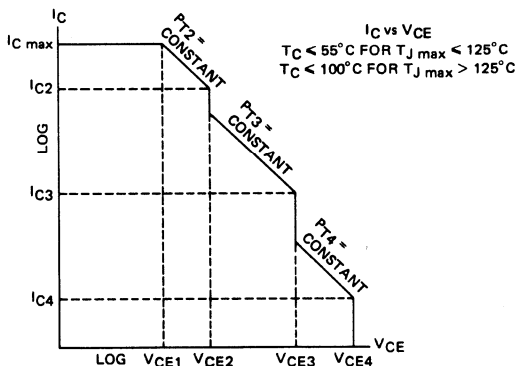

FIGURE 1
Figure 1 shows a Forward-Biased Continuous Safe Operating Area. For  $V_{CE} \leq V_{CE1}$  the total power dissipation  $P_T$  is limited by  $I_C \text{ max}$ . At increasing  $V_{CE}$  the power dissipation capability of most transistors is decreasing gradually. Because the rate of decrease depends on the individual transistor, it is suggested to use  $P_{T3}$  for  $V_{CE2} < V_{CE} \leq V_{CE3}$  and  $P_{T4}$  for  $V_{CE3} < V_{CE} \leq V_{CE4}$ .
For the area given in Figure 1, safe operation is assured with forward bias only ( $I_B$  is positive for npn transistors, negative for pnp transistors). High-current germanium transistors may have  $I_{CEO}$  leakage currents of 1 A or more at high junction temperatures. It is not recommended to operate transistors continuously at currents smaller than  $I_{CEO}$  except in a temperature-stable cutoff condition.
The number of test points is arbitrary. The Safe Operating Area in Figure 1 requires three (3) test points:  $I_{C2}$  at  $V_{CE2}$ ,  $I_{C3}$  at  $V_{CE3}$  and  $I_{C4}$  at  $V_{CE4}$ . Test points should be selected using the principle that only the verified  $P_{TN}$  is assured for  $V_{CE}$ 's smaller than the test point voltage  $V_{CEn}$ .